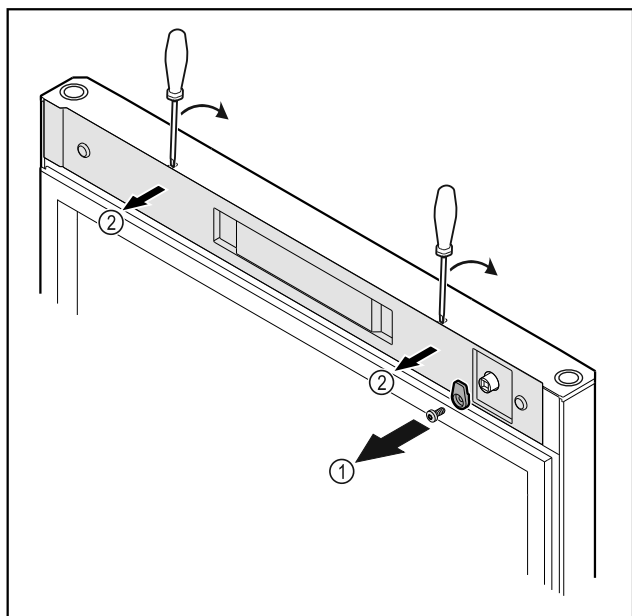

Fig. 7
- Unscrew the door latch Fig. 7 (1).
- Unlatch the cover Fig. 7 (2) with a small screwdriver and remove it.